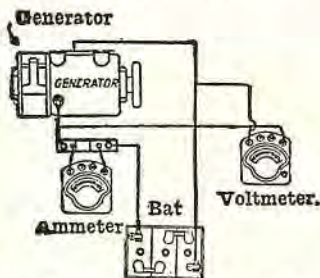

Fig. 13. Testing a generator by "motoring" it.
3. By "motoring the generator," that is, by running the generator by the battery free, without a load, i.e., with no tight bearings or binding at any point (Fig. 13).
Method 3: By connecting this shunt-wound generator to a fully charged battery (Fig. 13) with the armature and all brush connections complete, and with an ammeter in series with the circuit and a voltmeter across the circuit, the generator running as a motor (termed "motoring-generator") should draw 4.0 to 4.5 amperes, and the voltmeter should indicate 5.8 volts; the generator operating as a motor should run at a speed of 430 r.p.m.